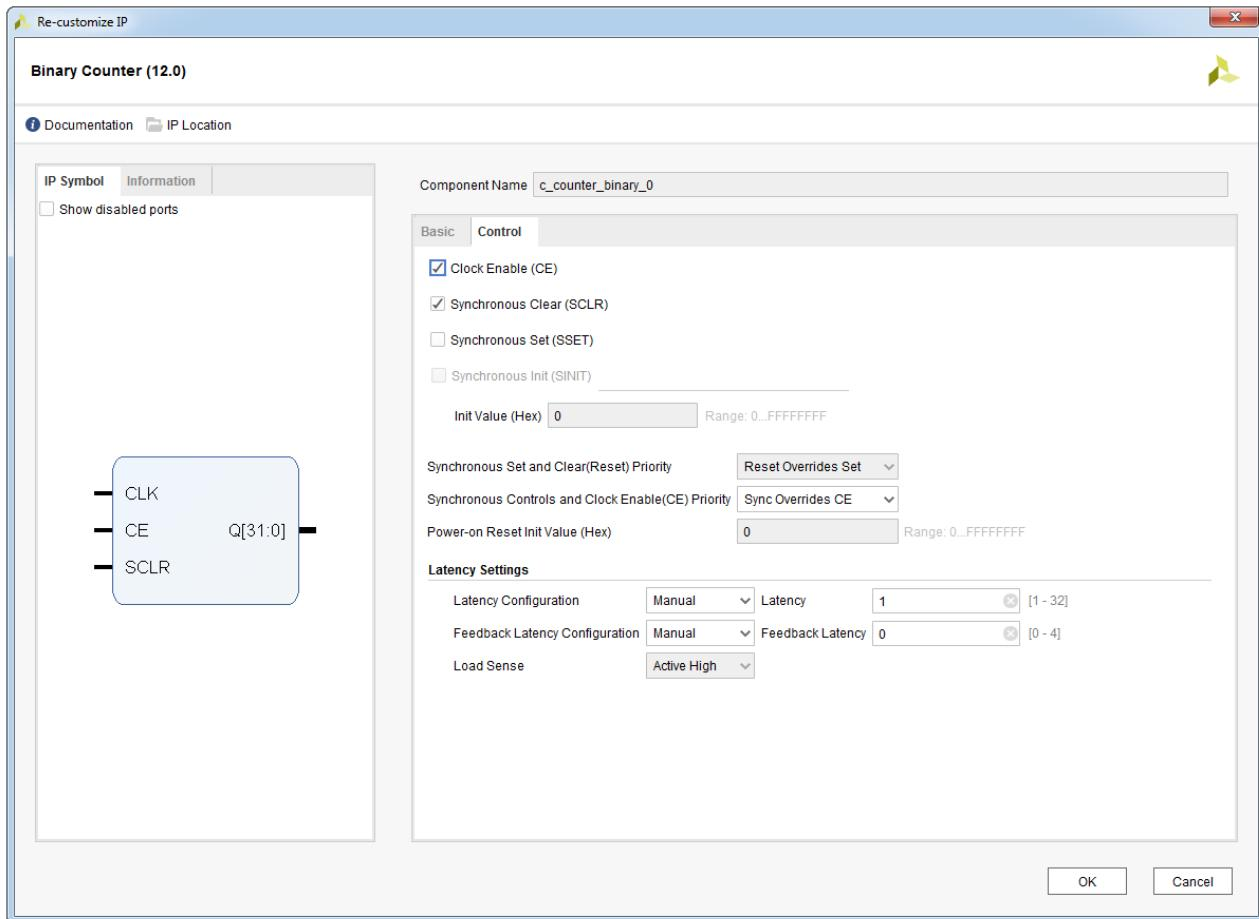

Figure 12.55: Binary Counter (12.0) re-customization IP dialog box - Control tab
- enable **Clock Enable (CE)** and **Synchronous Clear (SCLR)** options, see Figure 12.55 and